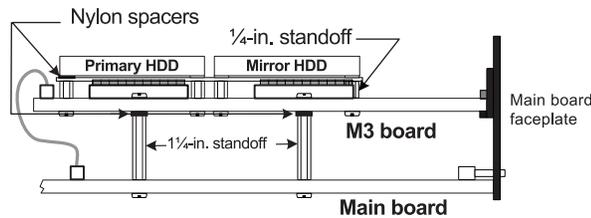

Fig. M3-1: Mounting locations of M3 hardware
The M3 kit consists of an M3 printed circuit board, hard drive mounting plate, faceplate, four (4) 1/4-inch standoffs, 12 nylon spacers (washers), eight (8) screws, and an IDE cable for connection to the main board. Refer to **Fig. M3-1**, below, to identify and locate where these components will be installed.